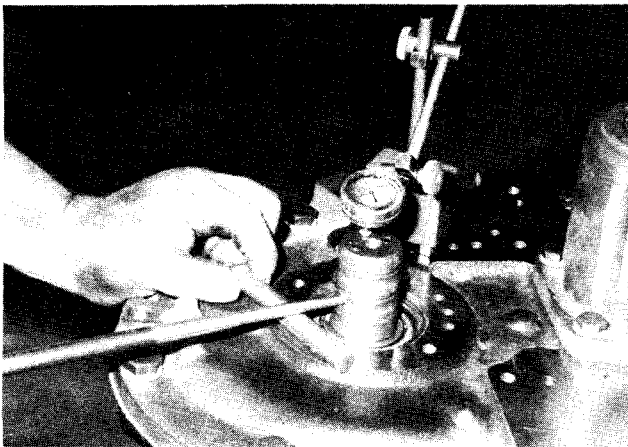

Figure 59
21. Begin shimming input shaft (A) with dial indicator to measure free play (Figure 59.)
25. Repeat steps 19 thru 24 to shim shafts (C) and (D).